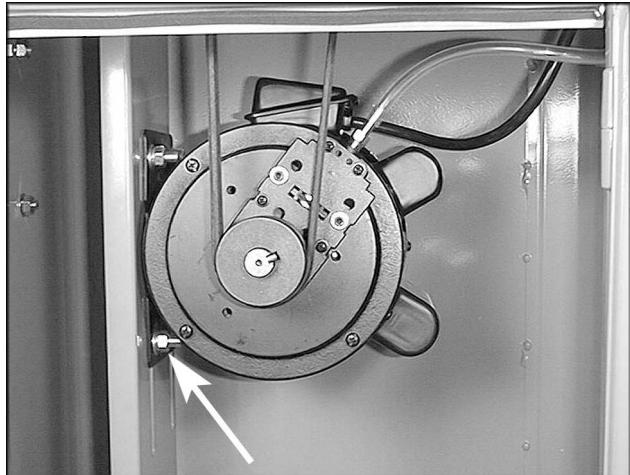

Fig. 4
9. Loosen the nuts on the four motor mounting bolts (Fig. 4), and tension the v-belt by pushing down on the motor. Tighten the four motor mounting nuts.